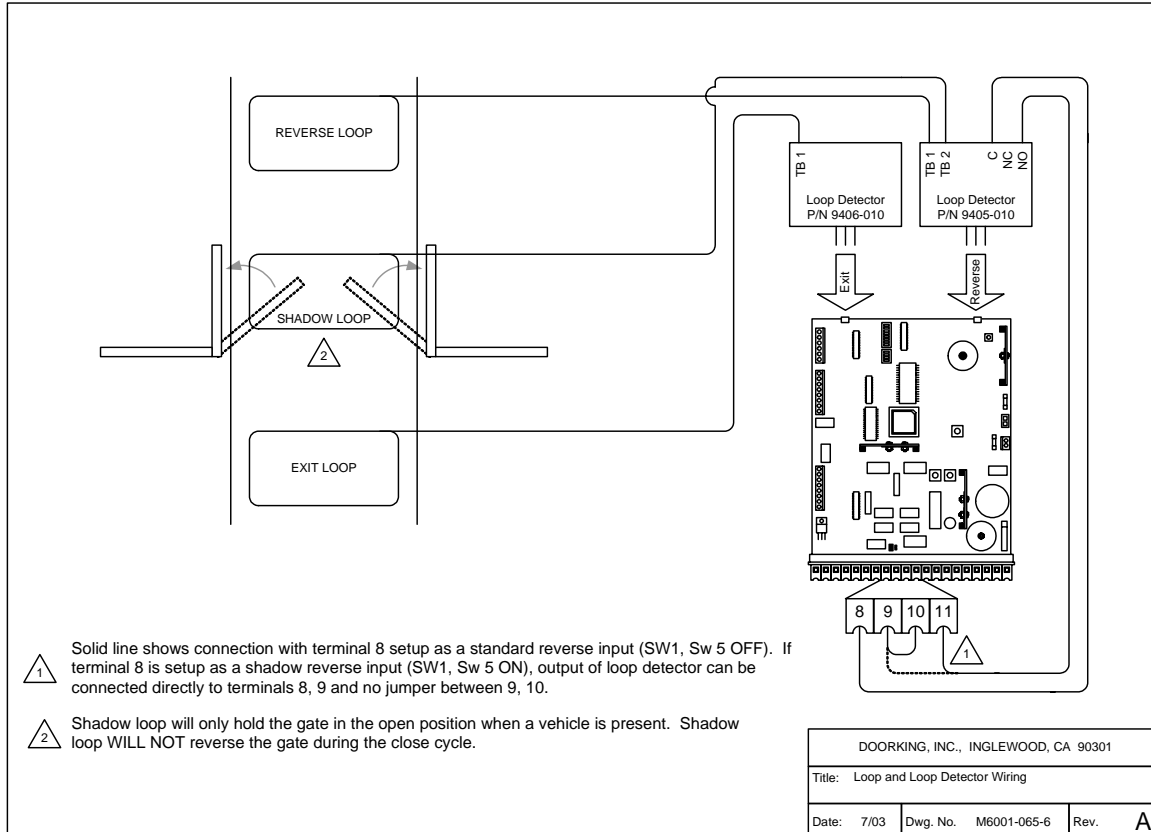

Figure 17
- See Figure 17 for suggested placement of sensors. (Diagram is for illustration purposes only. Actual placement of sensors is dependent on the installation requirements).
Note: It is recommended that the CLOSE PHOTO-BEAM input only be used when the input to terminals 8 and 9 are set for SHADOW operation (SW 1, switch 5 ON). If terminals 8, 9 are set to operate as a REVERSING input (SW 1, switch 5 OFF), then connect the CLOSE PHOTO-BEAM to these terminals as shown in figure 17.